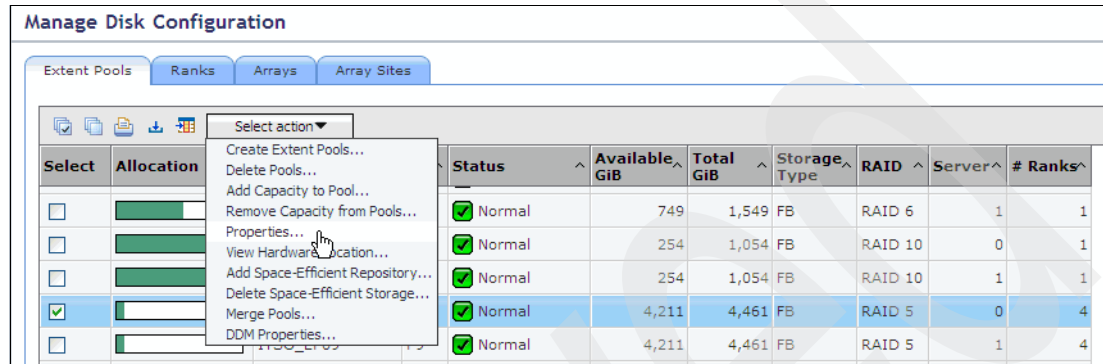

Figure 13-44 Select Extent Pools properties
- Before you start allocating space on each Extent Pool, you can check its definitions and verify if all the settings match the ones for your planned logical configuration design. There are many options available from the Select action drop-down menu, such as add or remove capacity to the pool, view Extent Pool or DDM properties, or dynamically merge two Extent Pools, as shown in Figure 13-44. In order to check the Extent Pool properties, select the desired Extent Pool and, from the Select action drop-down menu, click **Properties**.